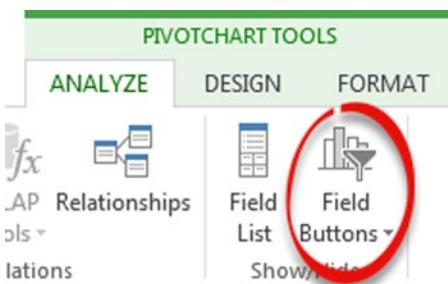

Figure 22-19. Turning off field buttons from the Analyze tab
1. Remove the filtering buttons in the pivot chart by toggling them using the Analyze ▶ Field Buttons option. See Figure 22-19.